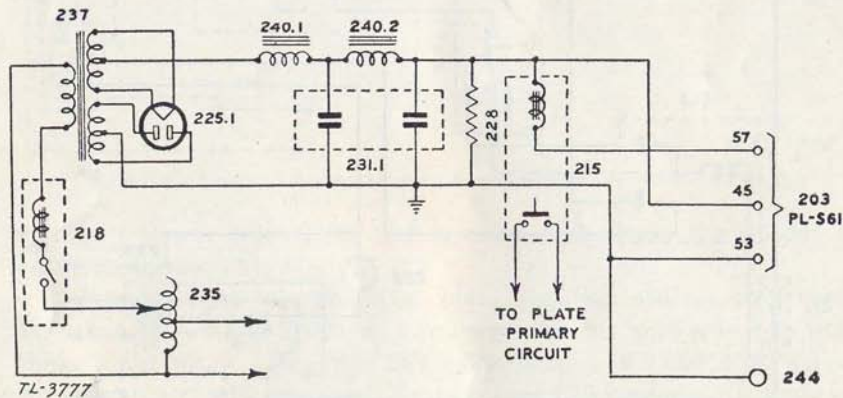

FIGURE 18.—Functional diagram of control rectifier circuit of RA-34-B.
c. *Control rectifier circuit.*—This rectifier utilizes a type 199698 tungar tube 225.1 in a full-wave rectifier circuit with a two-section, choke-input filter. (See fig. 18.) The output is 12 volts direct current at 2.4 amperes. Transformer 237 supplies both plate and filament voltage for the tungar tube. Its primary is connected through circuit breaker 218 to the output of the variac 235. The output of the rectifier